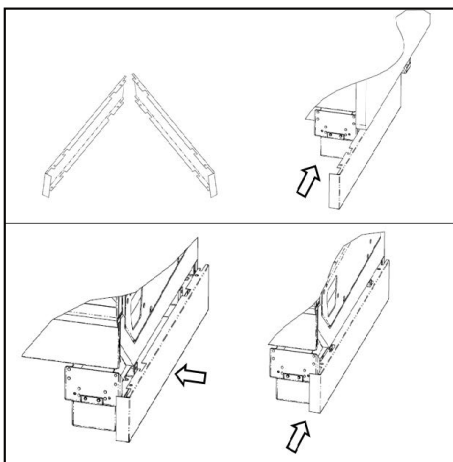

Fig. 77 End view of front kickplate install
2. Slide the end kickplate front to rear, under the end of the case (Fig. 77). When the front flange is about $\frac{9}{16}$ " from the base foot, slide the front flange the rest of the way under the case, then slide the whole kickplate the final $\frac{9}{16}$ " rearward so that the metal tabs nest behind the case base feet (included with the ship loose parts). The front flange of the end kickplate is held in place when the front kickplate is installed in the next step.